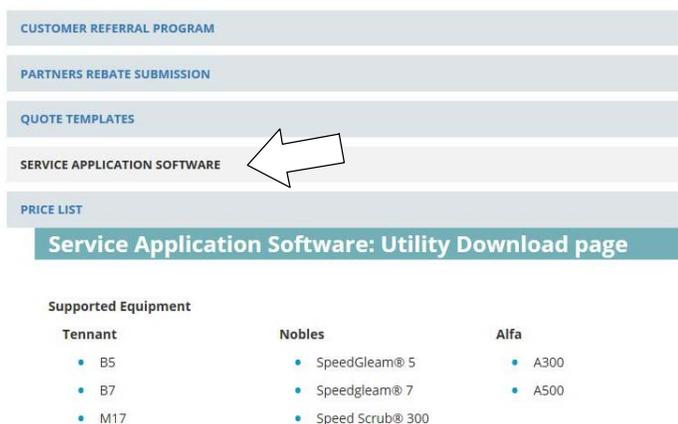

Fig. 35
3. Click on the “SERVICE APPLICATION SOFTWARE” link as shown below (Figure 35).